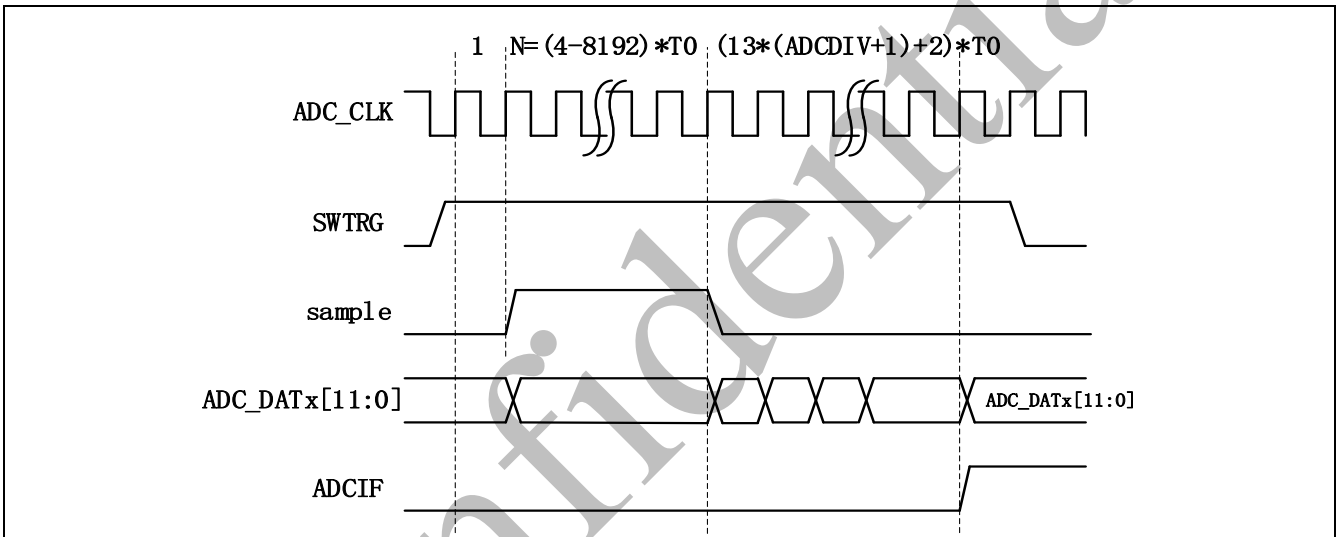

Figure 3-95 Single Mode Conversion Timing Diagram
- 5 Figure 3-95 shows an example timing diagram for Single mode.